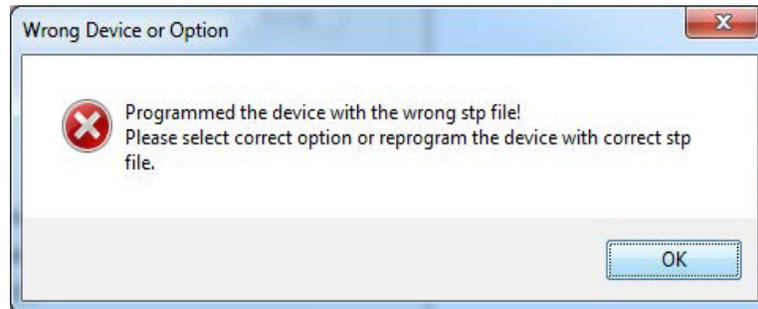

Figure 11 • Wrong Device or Option Message
- If the SmartFusion2 device is programmed with a STAPL file in which MDDR is not configured for DDR memory then it shows an error message, as shown in Figure 11.